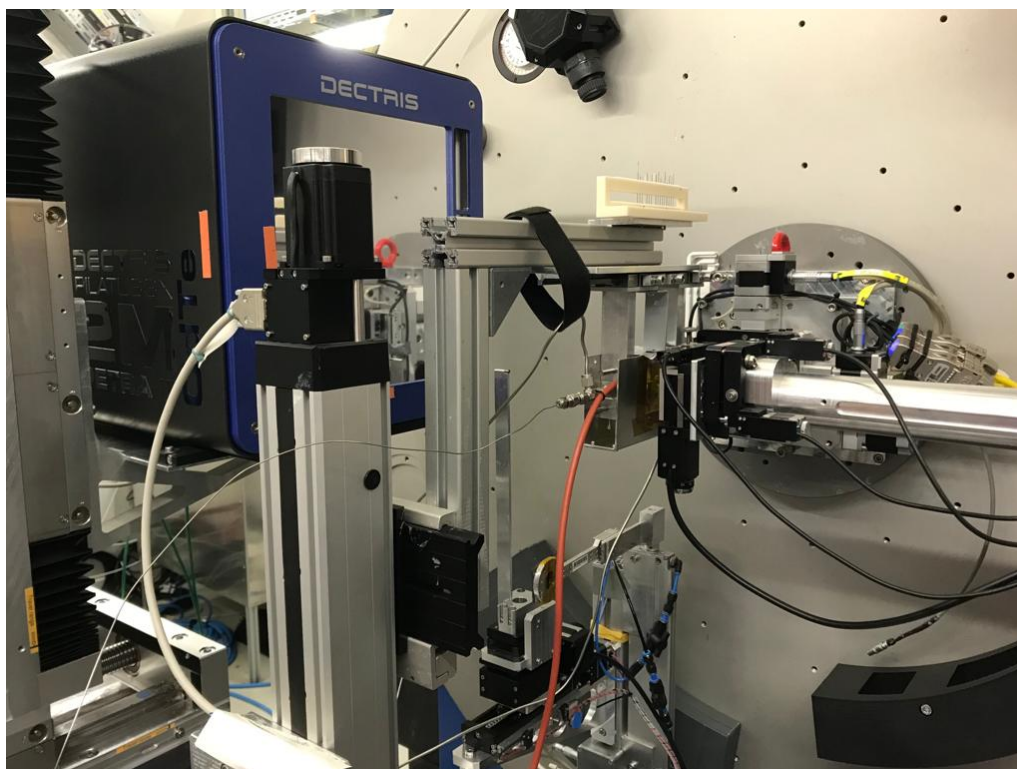

Figure 3: Comparable experimental setup at DESY
- The same setup was just used at a beamtime at DESY and can be seen in Figure 3.